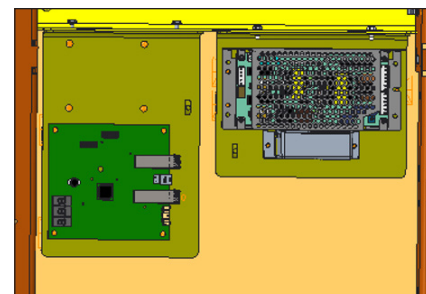

Figure 24: Mount PLR
1. Use the supplied hardware to place the ProLink Router(s) (PLRs) at the locations specified on **DWG-3929866** and the contract-specific Signal Interconnect Drawing and Riser Diagram. Refer to **Figure 24**.
4. Pull the PLR mounting plate from the display. Refer to **Figure 24**.